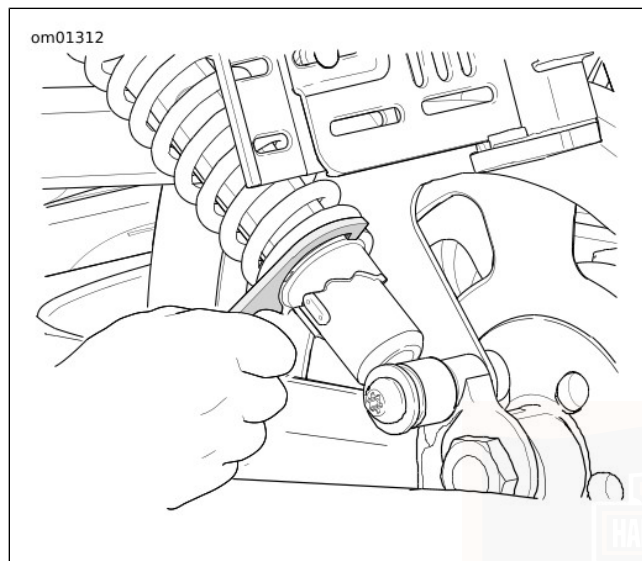

Figure 12. Rear Shock Absorber Adjustment: VRSCF Model
1. See Figure 12. Place a SPANNER WRENCH (PART NUMBER: 94820-75A) (VRSCF) or SPANNER WRENCH (PART NUMBER: 94700-52C) (other models) around the lower collar of the shock absorber.